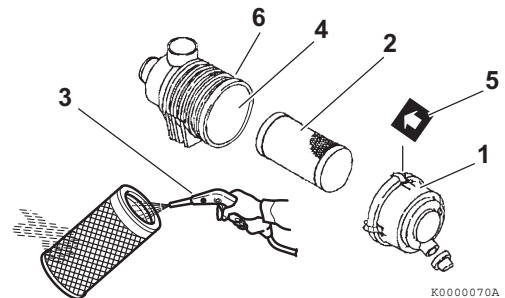
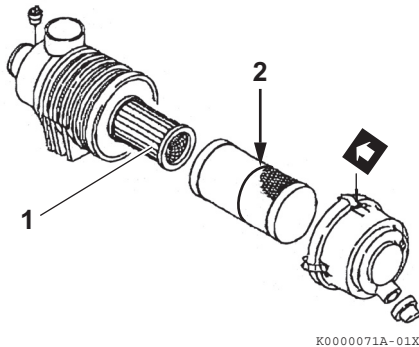

Figure 5-11
Figure 5-12
Note that a typical air cleaner is shown in **Figure 5-11** and **Figure 5-12** for illustrative purposes only.
1. Unlatch and remove the air cleaner cover (**Figure 5-11, (1)**).
2. Remove the element (**Figure 5-11, (2)**) (outer element if equipped with two elements).
3. Blow air (**Figure 5-11, (3)**) through the element from the inside out using 42 - 71 psi (0.29 - 0.49 MPa; 3.0 - 5.0 kgf/cm²) compressed air to remove the particulates. Use the lowest possible air pressure to remove the dust without damaging the element.
- If the air cleaner is equipped with a double element, only remove and replace the inner element (**Figure 5-12, (1)**) if the engine lacks power or the dust indicator actuates (if equipped).
- Install the element into the air cleaner case (**Figure 5-11, (4)**).
*Note: If there is a red line (**Figure 5-12, (2)**) in the outer element, reinsert the element until the overlap position of red line and end face of the air cleaner case.*
- Reinstall the air cleaner cover making sure you match the arrow (**Figure 5-11, (5)**) on the cover with the arrow on the case (**Figure 5-11, (6)**).
Replace the air cleaner element (**Figure 5-11, (2)**) every 500 hours even if it is not damaged or dirty.
When replacing the element, clean the inside of the air cleaner case (**Figure 5-11, (4)**).
If the air cleaner is equipped with a double element, only remove and replace the inner element (**Figure 5-12, (1)**) if the engine lacks power or the dust indicator actuates (if equipped). This is in addition to replacing the outer element.